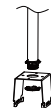

Figure 2
- Step1. Mount the bracket on 3/4"NPT (Figure 2)